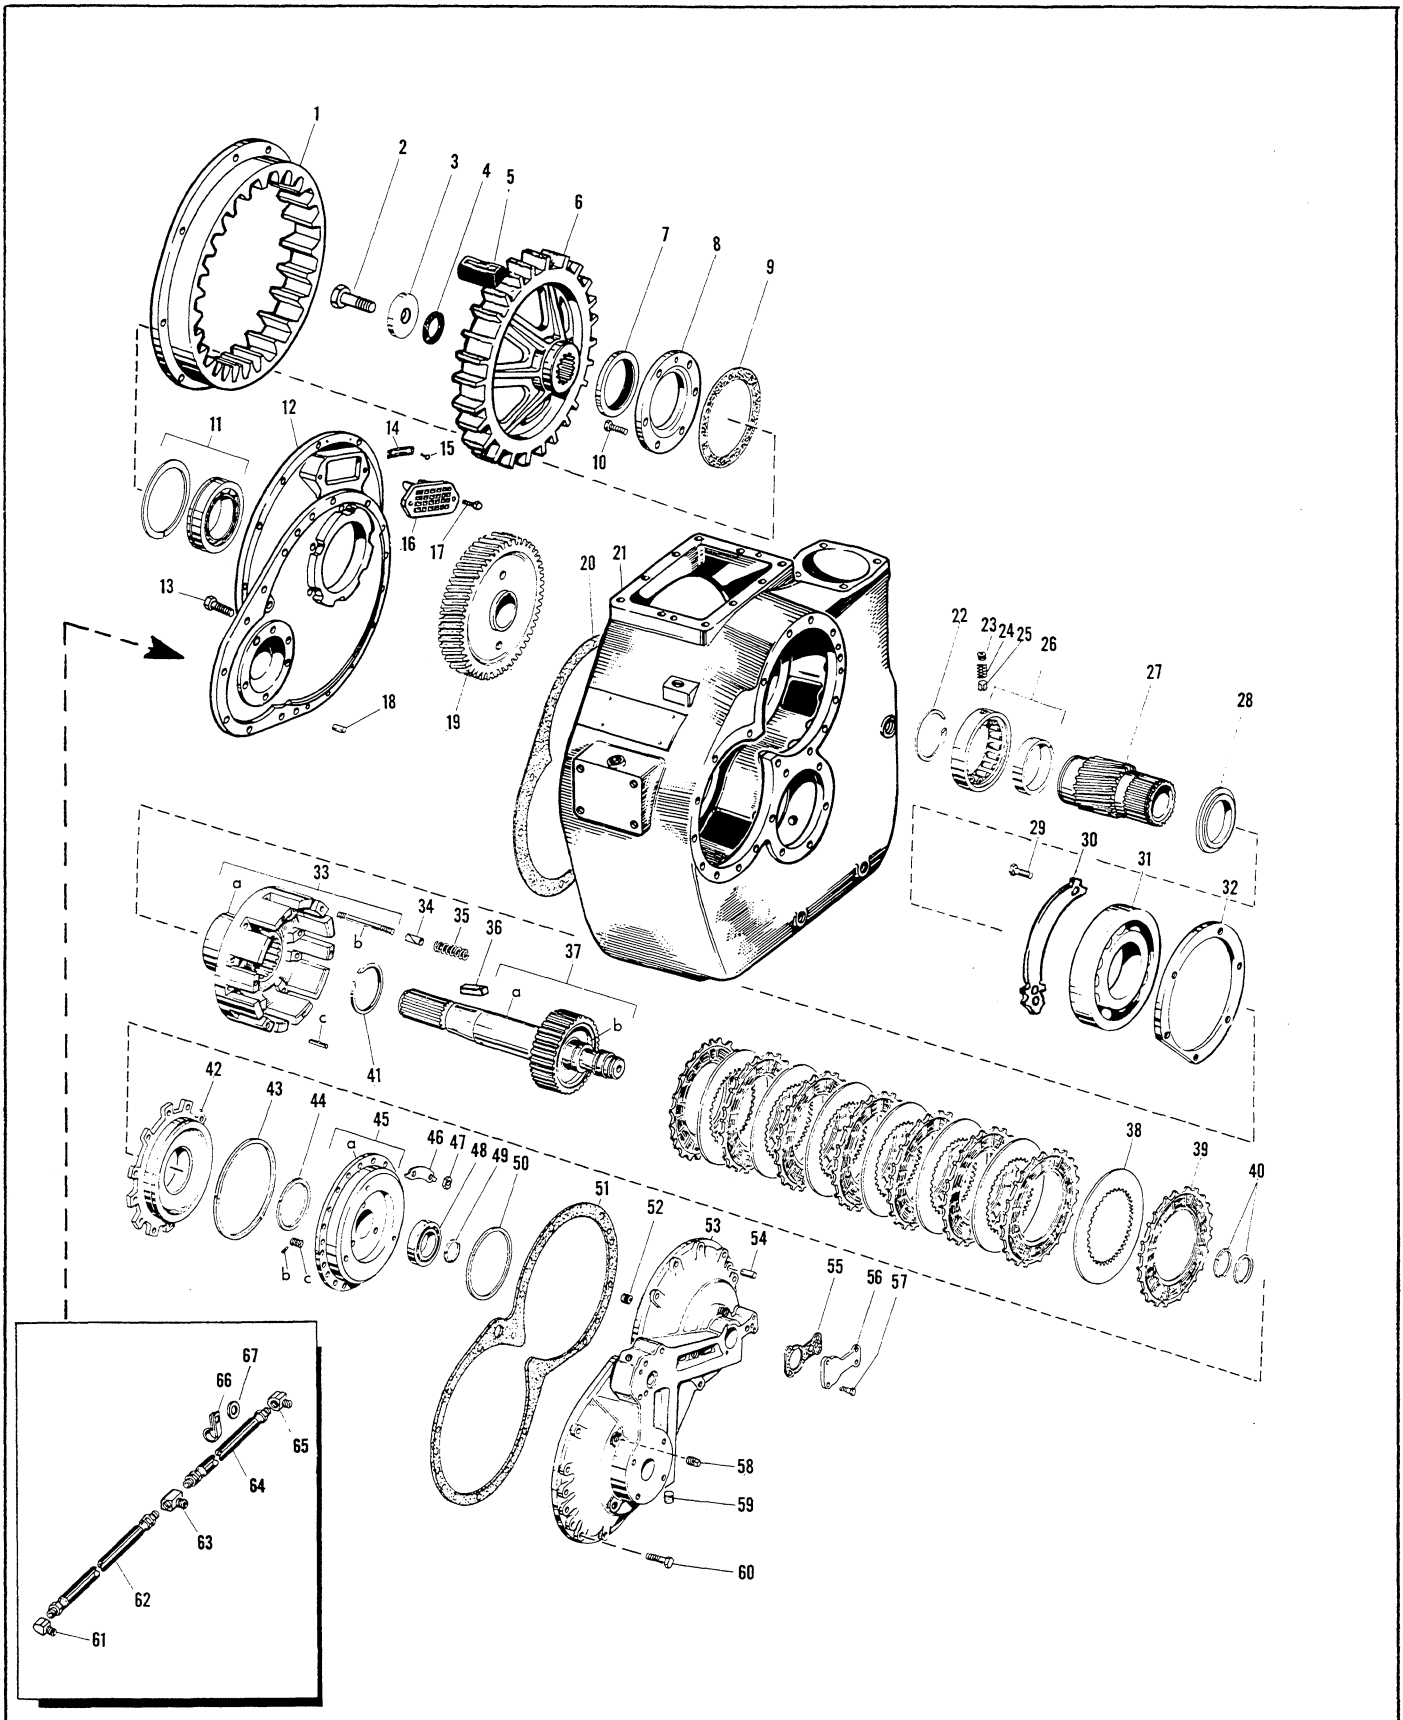

Figure 79. Forward Clutch Group Of Parts – Exploded View. (Shallow case shown).
B. Install the lathe cut ring (Fig. 79, 4) in the hub of the spider on the end of the forward clutch shaft. Secure the spider to the shaft with a retainer washer (3) and a capscrew (2) (7/8-9 x 3). Tighten the capscrew to 405-550 lbs. ft. dry.
A. Install the 1/4 inch hex-socket-head pipe plugs (fig. 79, 59) and the six 3/8 inch square-head pipe plugs (58) in the manifold (53). Use special tool T-6987, and install the roll pin (Fig. 80, 35) in the manifold. Install two new 5 inch piston rings (Fig. 79, 50 & Fig. 80, 56) in the manifold. Install the two manifold orifice pipe plugs (Fig. 79, 52) in the manifold. Install the two 1/2 x 1 dowel pins (54) in the main housing. Place the manifold and a new manifold-to-main-housing gasket (20) in position against the main housing. Carefully tap the manifold into position. Do not use excessive force to install the manifold as damage to the piston rings in the manifold or the piston rings on the shafts will occur. Secure the manifold to the main housing with sixteen 3/8-16 x 1-1/2 hex-head capscrews (60). Tighten the capscrews to 34-38 lbs.-ft. torque.
(5) Place the selector valve assembly and a new selector-valve-to-manifold gasket (41z) in position against the manifold. Secure the selector valve to the manifold with two 3/8-16 x 2-3/4 hex-head capscrews (41dd) and two 3/8-16 x 5-3/4 hex-head capscrews (41ee). Tighten the capscrews to 17-25 lbs. ft. torque, dry. On units manufactured with one-half inch capscrews used to retain the selector valve to the manifold, tighten the screws uniformly using a criss-cross sequence to 17-25 lbs. ft. torque. Check the freeness of valve stem. If stem binds, loosen the mounting screws and again tighten to 17-25 lbs. ft. torque with the criss-cross sequence. Repeat this until stem moves freely.
D. Place the cover plate (Fig. 79, 56) and a new cover plate gasket (55) in position against the manifold. Secure the cover plate to the manifold with four 3/8-16 x 1 hex-head capscrews (57). Tighten the capscrews to 34-38 lbs. ft. torque.
Use Figure 79 through 82 and the adjacent parts list for ordering spare or replacement parts in accordance with the instructions contained in page 4. Following the parts list are planographs of the MG-514 Marine Gear.